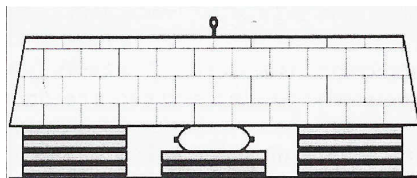

Fig. 5
2. When there is more than 70 mm space between the ground and the object to be lifted, a firm foundation is to be built leaving just enough space to insert a non inflated bag. This maximizes lifting force and height. (Fig. 5)